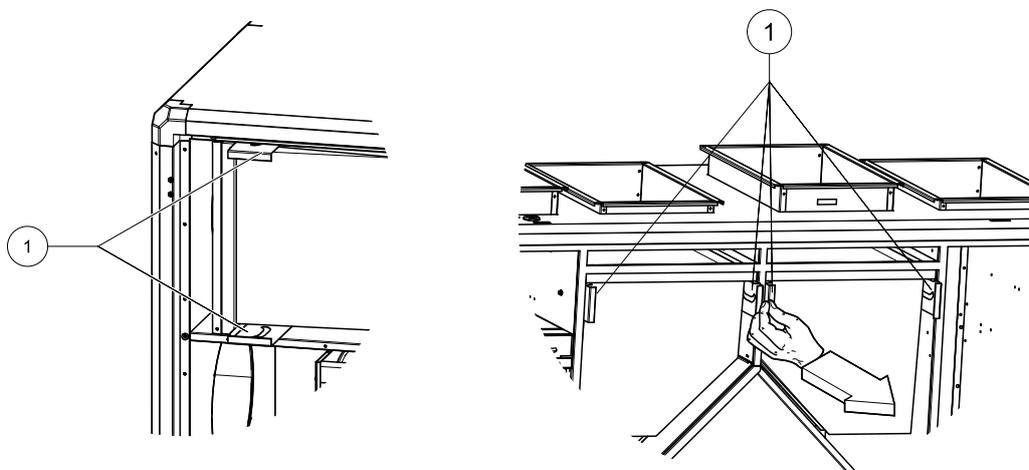

Fig. 6 Releasing filter lock
The filters are taken out by releasing the filter locking handle as shown in (figure 6) pos 1, after which the filters can be taken out and replaced.